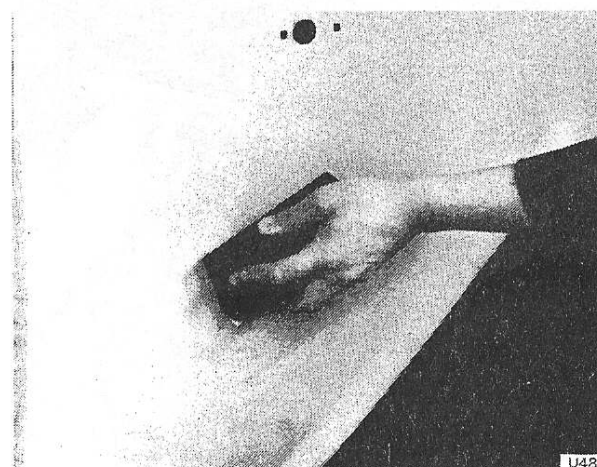

Fig. S51 Using a hard rubber block to flat large areas of minimal contour
4. On flat areas the use of a rubber, felt or cork block behind the paper will eliminate the effects of finger furrowing (see Figs. S51 and S52).